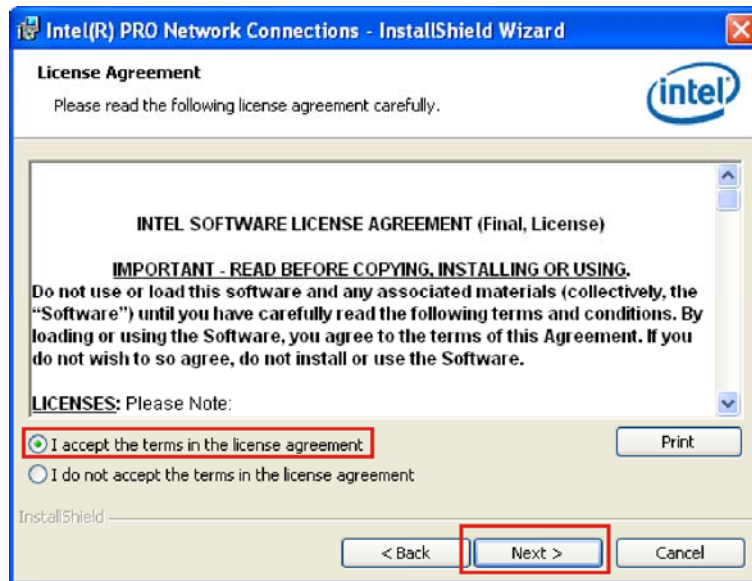

Figure 6-17: LAN Driver License Agreement
Step 6: The license agreement appears (**Figure 6-17**).